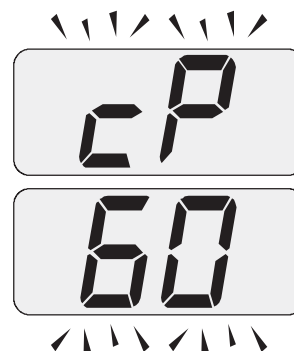

Figure 11.8
- 20 Press key G to vary the output in chimney sweep mode: when the display shows the letters **cP** that alternate with the heating water temperature value (e.g. 60), the "chimney sweep function" is at maximum output in heating mode (Figure 11.8);